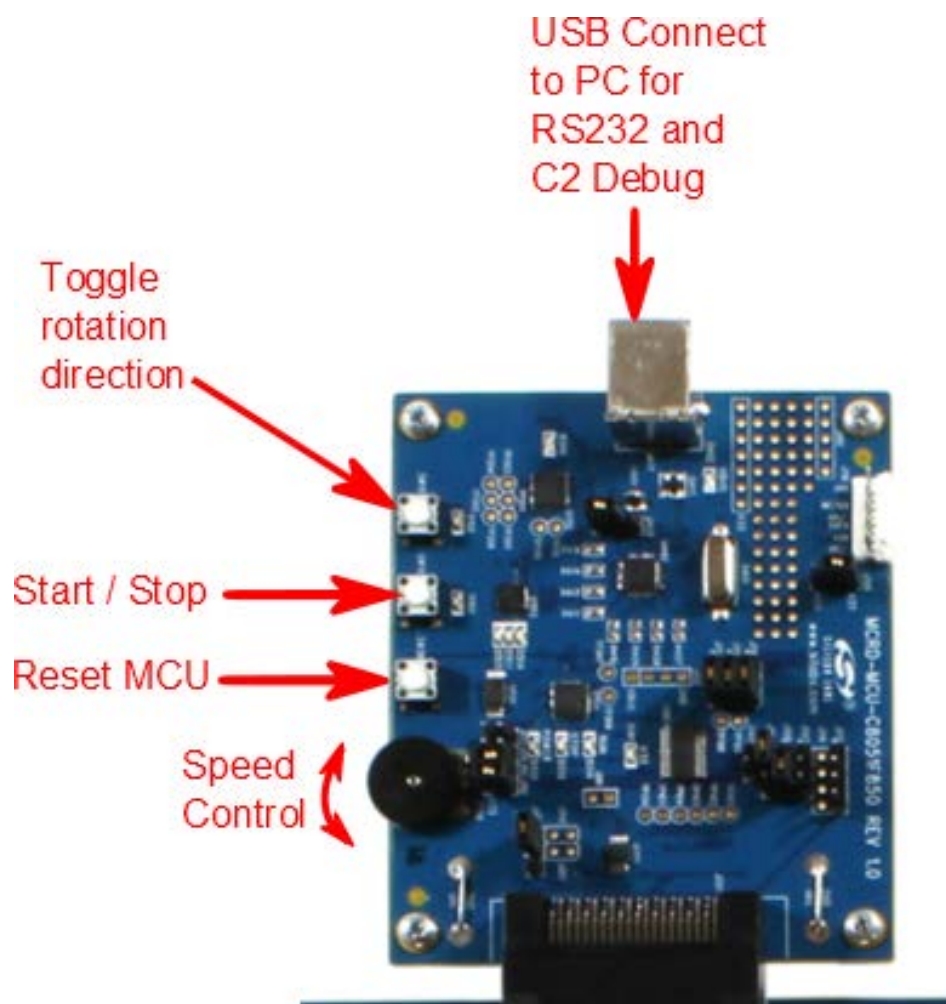

Figure 44. User Interface for Standalone Operation of BLDC Demo Kit
10. The user can also press the “Start/Stop” pushbutton on the board to stop the motor while the motor is running. Refer to Figure 44, “User Interface for Standalone Operation of BLDC Demo Kit,” on page 55 for the location of this pushbutton on the board.
After these two parameters have been changed to match the motor specifications, the user can operate the motor using the Start/Stop button, Direction button and potentiometer as shown in Figure 44.